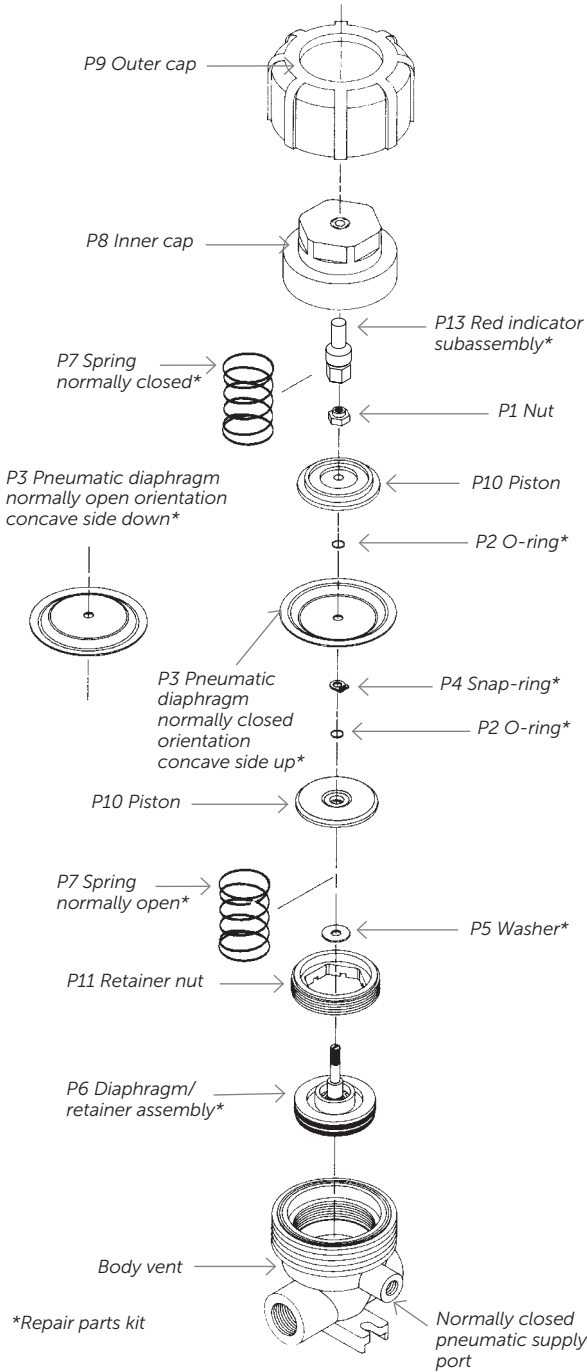

Figure 4.
1. Refer to Figure 4. Hold the inner cap (P8) with an adjustable wrench (S6) while turning the outer cap (P9) counterclockwise with the outer cap wrench (T1).
12. Put lower piston (P10) in place on the pneumatic diaphragm stem. Orient the ribs facing away from the pneumatic diaphragm (P3) as shown in Figure 4.
15. On normally closed valves, place the pneumatic diaphragm (P3) onto the diaphragm stem with the concave side facing up. (See Figure 4.) On normally open valves, place the pneumatic diaphragm (P3) onto the diaphragm stem with the concave side facing down. (See Figure 4.) Make sure the bead on the outside of the pneumatic diaphragm (P3) fits evenly within the groove on the body.
17. Put upper piston (P10) in place. Orient the ribs facing away from the pneumatic diaphragm (P3) as shown in Figure 4.